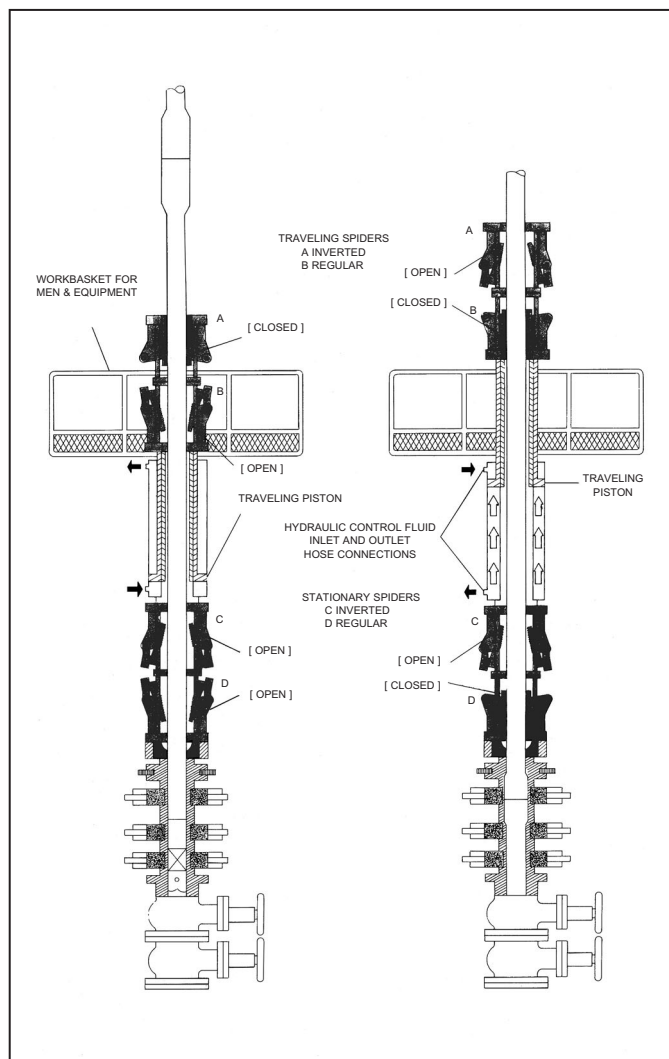

Fig. 3
A typical set of spiders on a snubbing rig is illustrated in Fig. 3. Four spiders may be used: two (2) in the regular (upright) position and two (2) in the inverted (snubbing) position. One regular and one inverted spider are stationary and the other regular and inverted spiders are mounted on the traveling piston. The traveling spiders are used to either push the pipe into the well or pull it from the well while the stationary spiders are used to hold the string of pipe when the traveling spiders are not engaged.